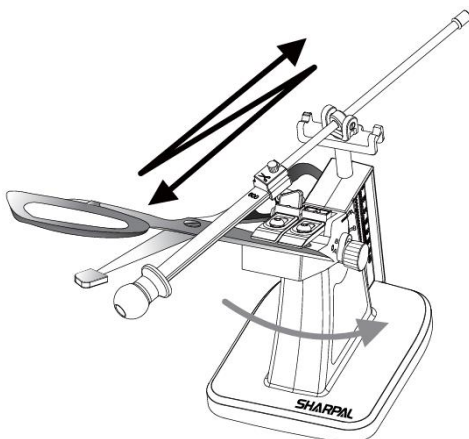

Fig. 10
2. Apply light pressure with long, smooth strokes, starting from the heel of the blade. Slide the abrasive plate back and forth along the cutting edge towards the tip. Stop at the tip of the blade (See Fig. 10)